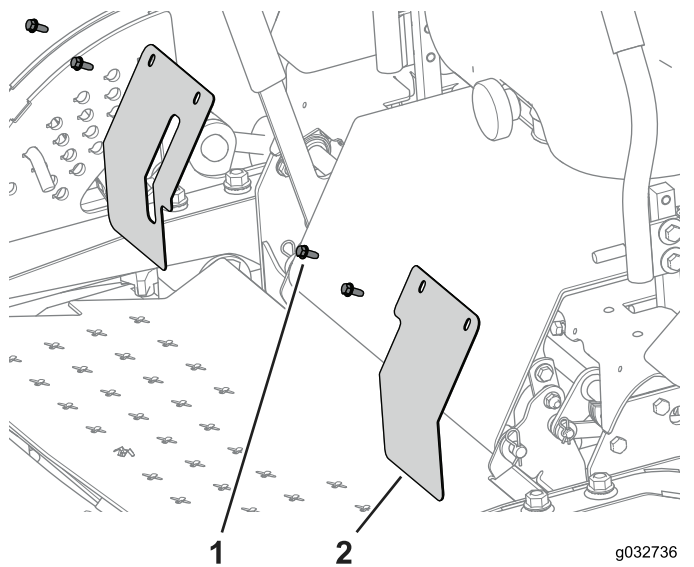

Figure 128
3. Use the bolts (1/4 x 5/8 inch) to secure the cover plates to the machine (Figure 128).